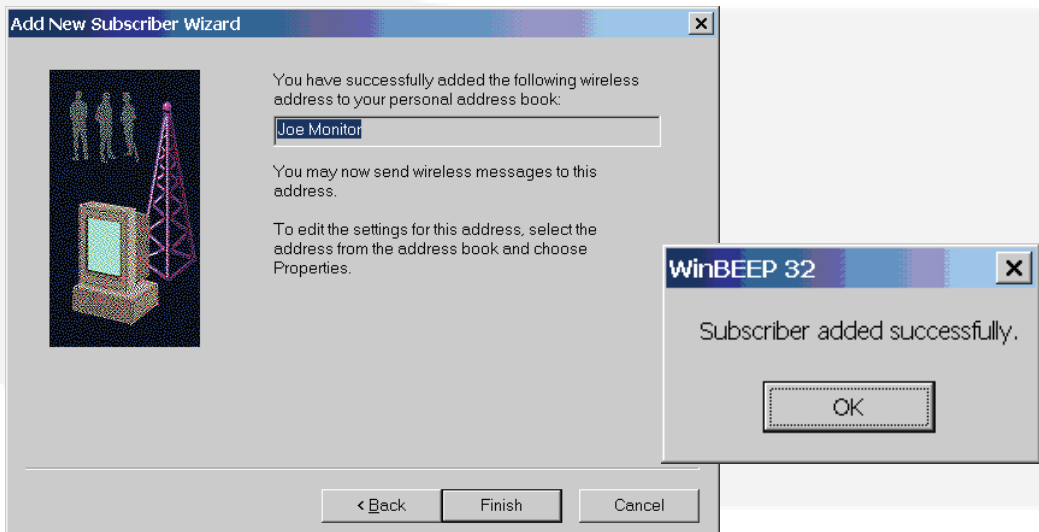

FIGURE 15-22. CUSTOM JOURNAL REPORT
7. At the last New Subscriber window, click on the **Finish** button. Figure 15-22.